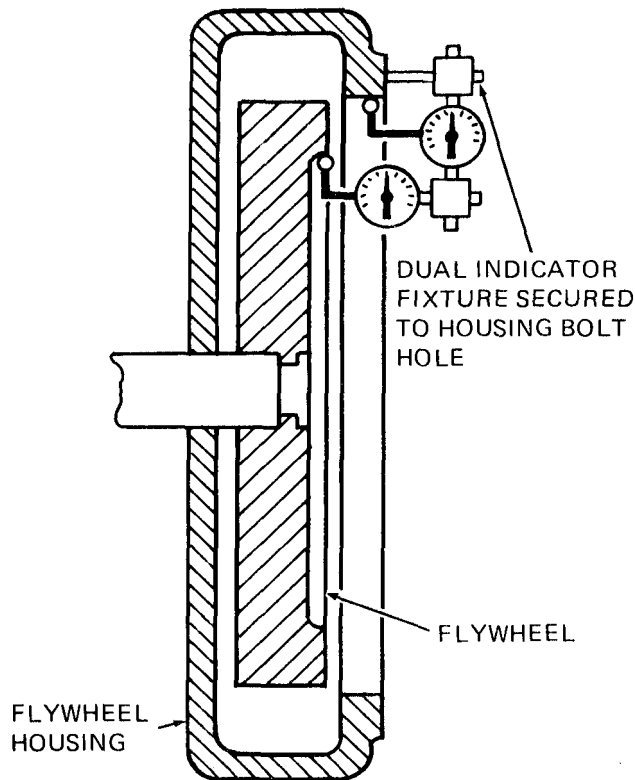

Figure 3-102. Checking flywheel to flywheel housing runout.
(2) Install scuff plate securing with capscrews. Tighten capscrews to 110-120 lb. ft. of torque.
(3) Check the runout of the flywheel to flywheel housing (fig. 3-102). Maximum allowable runout is 0.005 inch total indicator reading throughout one revolution of the flywheel.